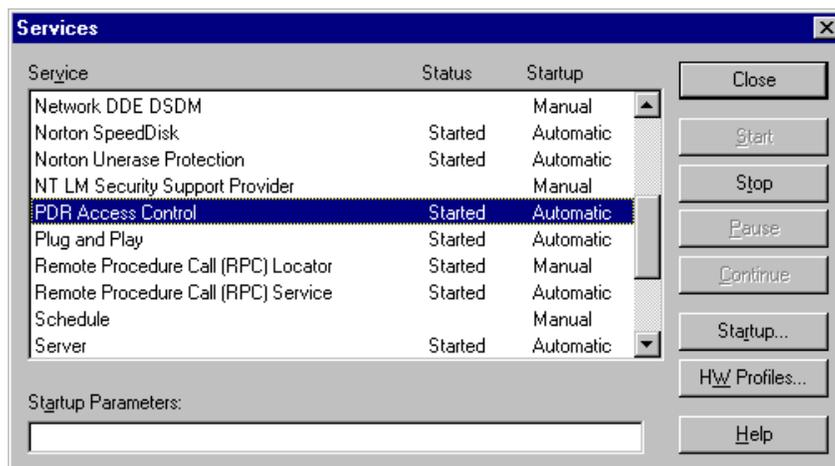

Figure 111. Services dialog box
4. Double-click the **Services** icon. The Services dialog box appears (Figure 111).